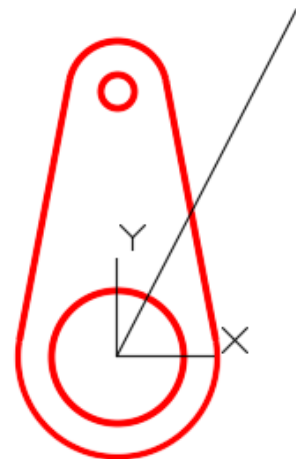

Figure Step 10
Step 10 Change to the Front view to ensure that the line was drawn correctly. (Figure Step 10)